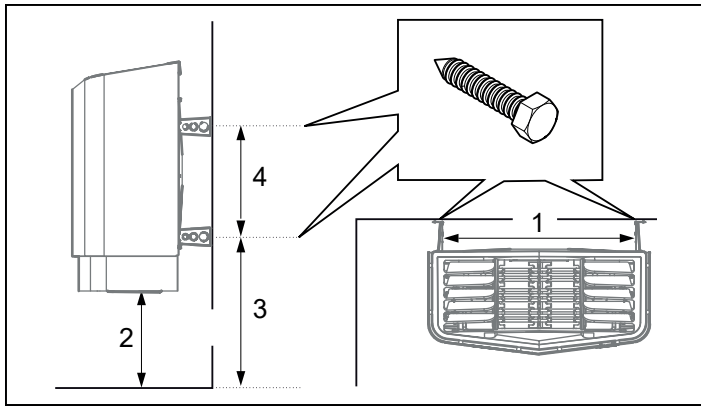

Figure 12: Dimensioning
6. Position the bracket screws according to the specified dimensioning see Fig. 12.